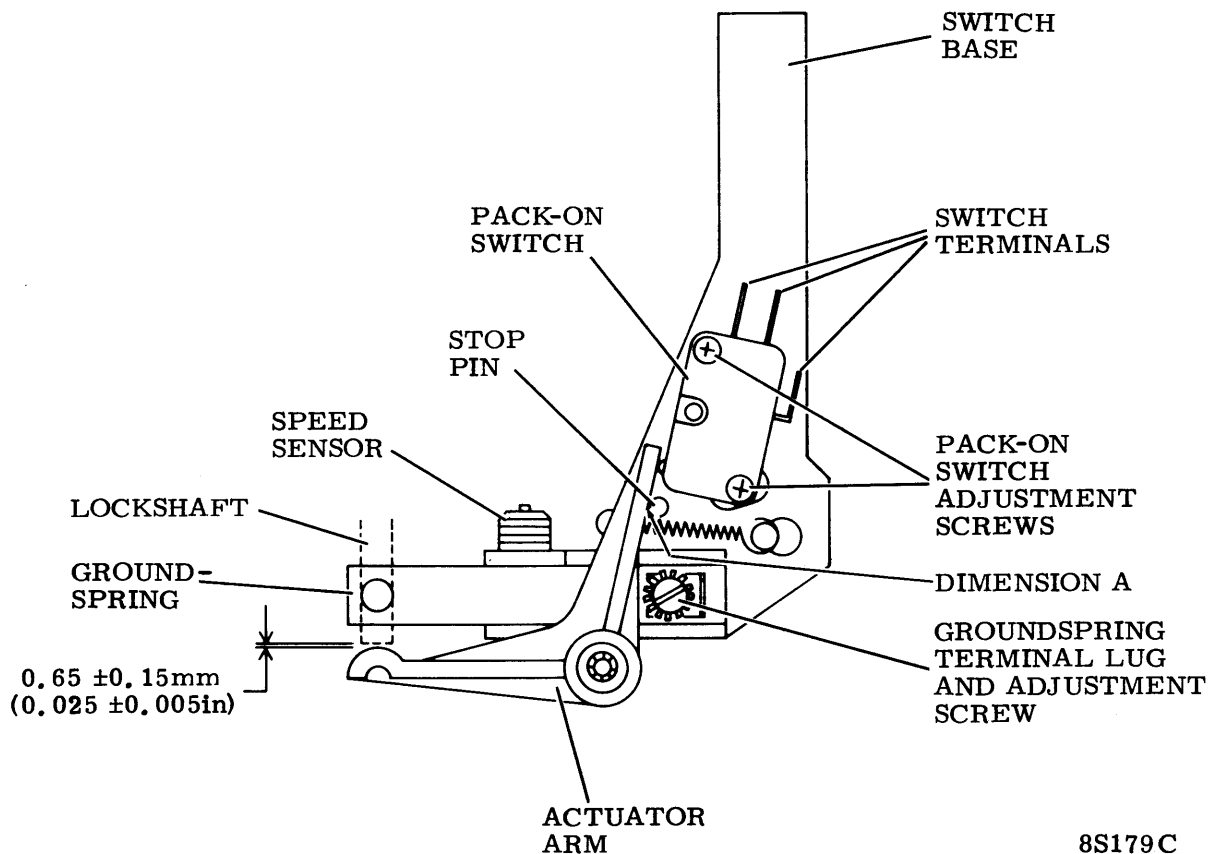

Figure 6-24. Pack On Switch Replacement/Adjustment
5. Identify pack on switch leadwires. Disconnect wires at switch (figure 6-24).
5. Identify pack on switch leadwires (figure 6-24). Disconnect wires at switch terminals.
6. Dimension between actuator arm and lockshaft must be as specified in figure 6-24. If dimension is as specified, go to step 9. If adjustment is required, go to step 7.
7. Loosen hardware on switch base (figure 6-24).
8. Position switch base until dimension between actuator arm and lockshaft is as specified in figure 6-24. Tighten screws.
9. Connect a multimeter (set to Rx1) to pack sensor switch terminals (figure 6-24). Meter must indicate 0 ohms. If correct go to step 11, if not go to step 10.
11. Insert 0.3 mm (0.011 in.) thick feeler gauge between actuator arm and stop pin (dimension A of figure 6-24).